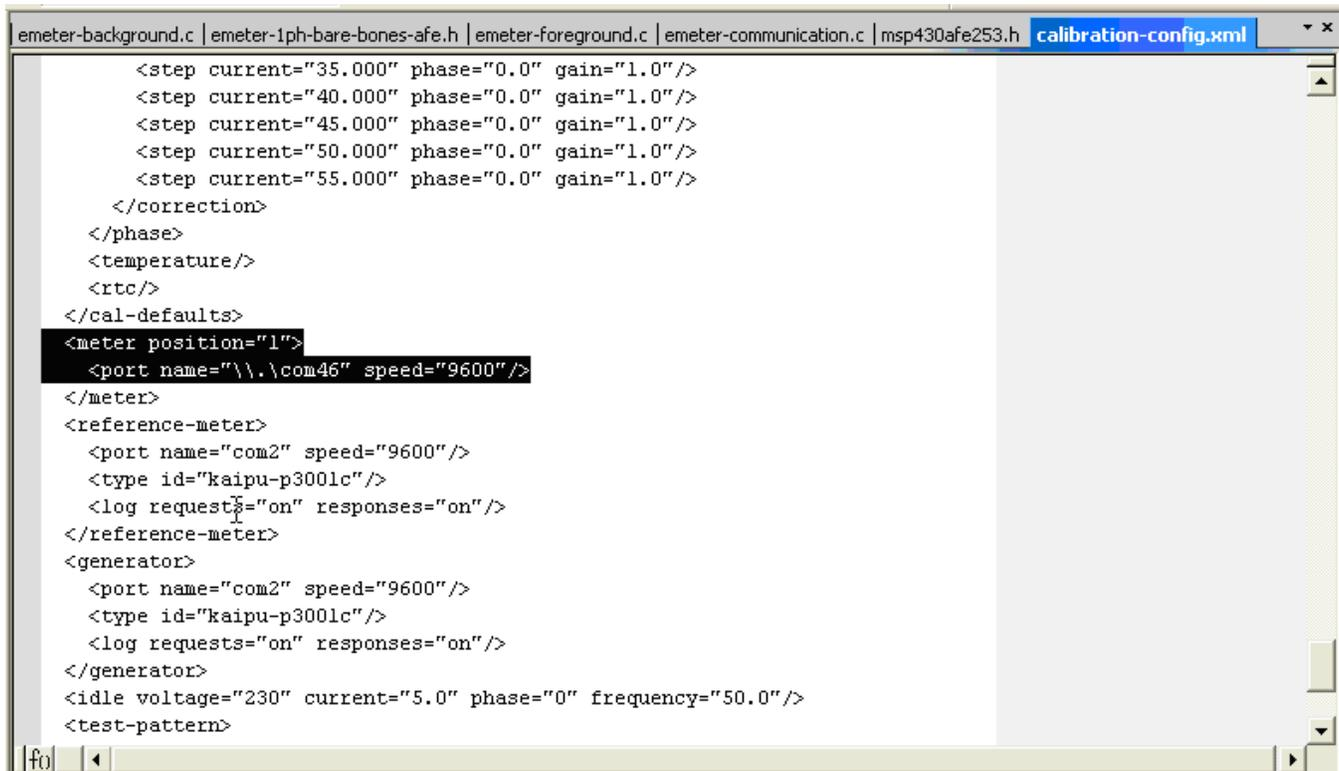

Figure 5. Modify Serial Port Number in calibration-config.xml
2. Check the Device Manager in Windows and find the serial port number that MSP-EXP430FG4618 device occupies (see Figure 5).
3. Modify the port number setting in calibration-config.xml (included in the GUI packet) and give the correct port number (see Figure 5). The calibration-config.xml file is used by Calibrator.exe as the configuration file.